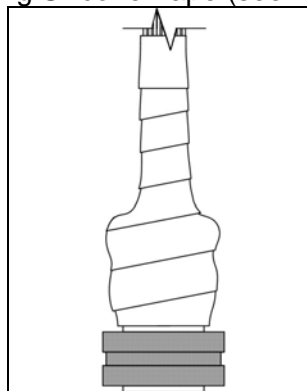

Figure 5
- 3.5.7 Cut off any excess Self-Fusing Silicone Tape (see figure 5)